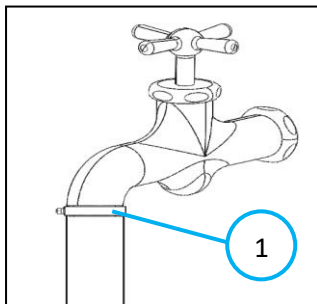

Fig. 1
3. Attach a hose to a tap by pushing its rubber end onto the tap and tightening the hose clip (Fig. 1)